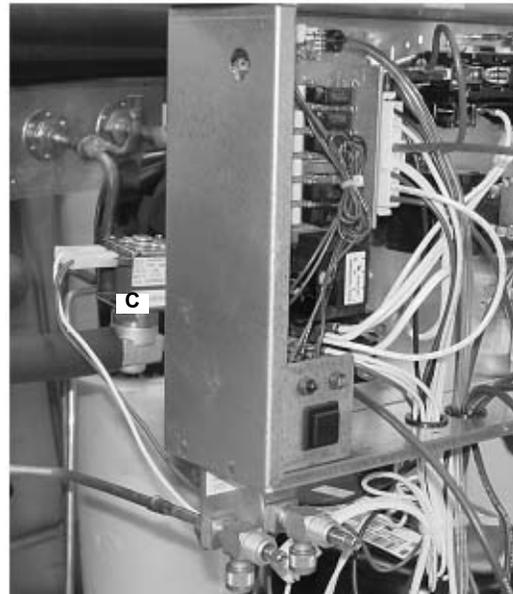

Figure 55.
58. Connect the hot gas valve harness (C) (white and red leads) to the hot gas valve (Figure 55).